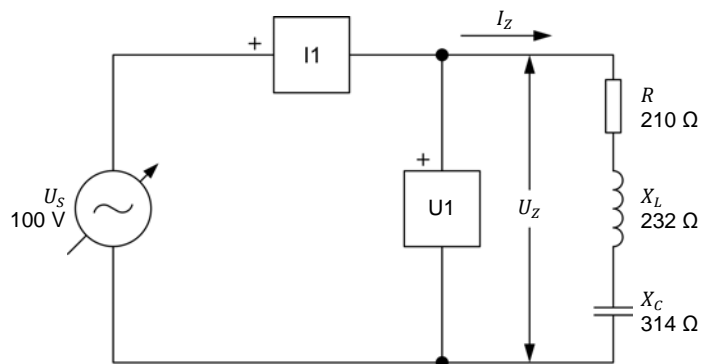

Figure 2-20. Series ac circuit containing a resistor, an inductor, and a capacitor.
37. Set up the circuit shown in Figure 2-20.